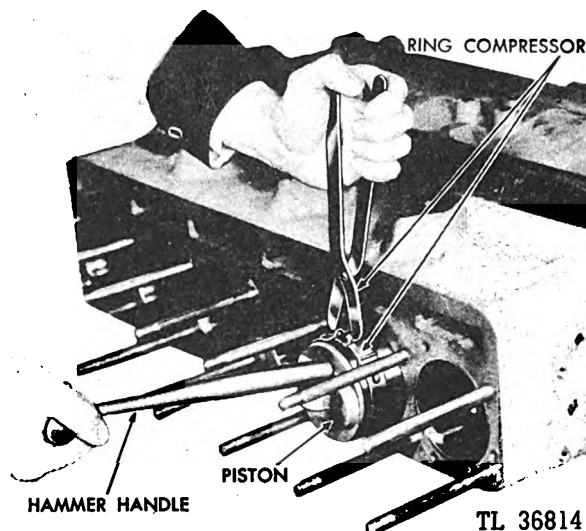

Fig. 162. Installing Piston in Cylinder
(2) When installing the piston and connecting rods into their respective cylinders, the arrow on the top of the piston should point to the injector side of the crankcase (the shallow side of the piston lobes). Place a ring compressor over the rings as shown in Figure 162.
as shown in Figure 162. Do not force the piston into the cylinder. If it does not move easily, either the rings are not compressed enough or the connecting rod is catching on the crankshaft. (The crankshaft throw should be in its bottom position for each piston and connecting rod installation.)